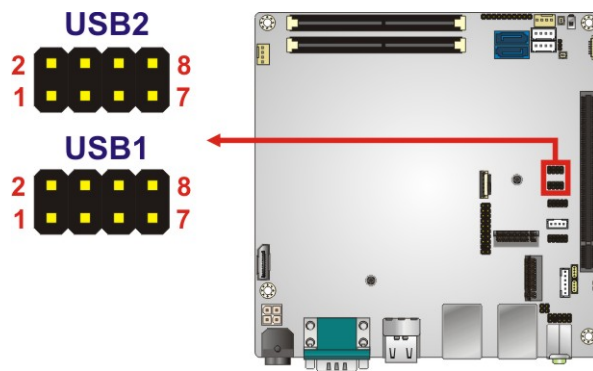

Figure 3-29: USB 2.0 Connector Locations
- CN Location:** See **Figure 3-29**